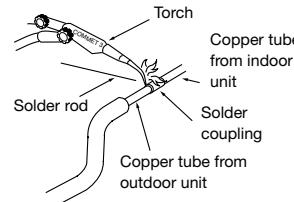

Figure 21
9. To braze the copper tube, before brazing a copper tube to a solder coupling or a copper tube to an expanded tube, do not forget to keep them tight as shown in Figure 21, 22.